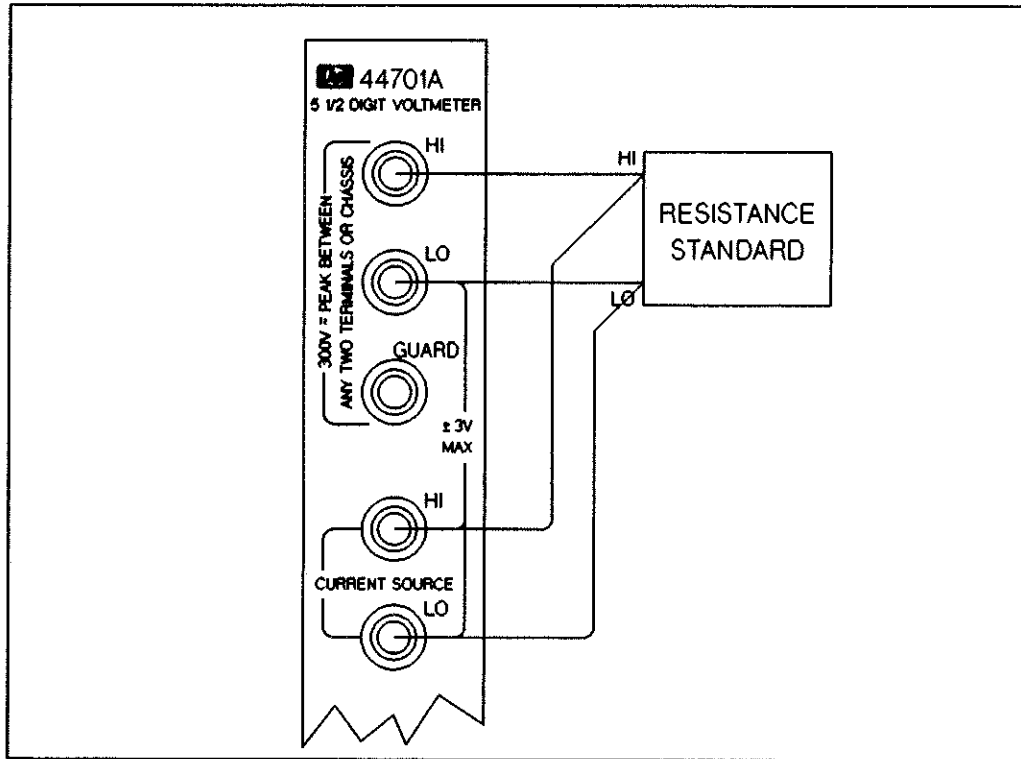

Figure 6-4a Ohms Gain Test Connections Using a Resistance Standard
12. If using the Resistance Standard, set its output to either 3 Kohm or 1 Kohm. If using a Standard Resistor, select either a 3 Kohm or 1 Kohm value. Connect the Resistance Standard/Standard Resistor to the rear HI and LO Input Terminals of the HP 44701A Integrating Voltmeter accessory. The connections are shown in Figures 6-4a and 6-4b.